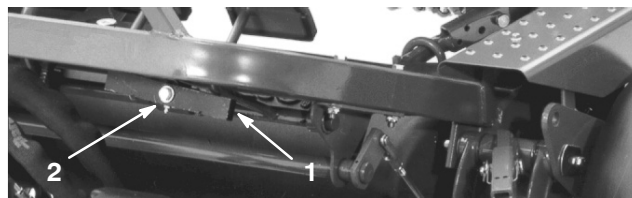

Figure 45
1. Loosen the nut on the back side of the lift pivot (Fig. 45).
2. Rotate the eccentric screw (Fig. 45) to raise or lower the lift pivot spring, leveling the lift pivot and pedals.